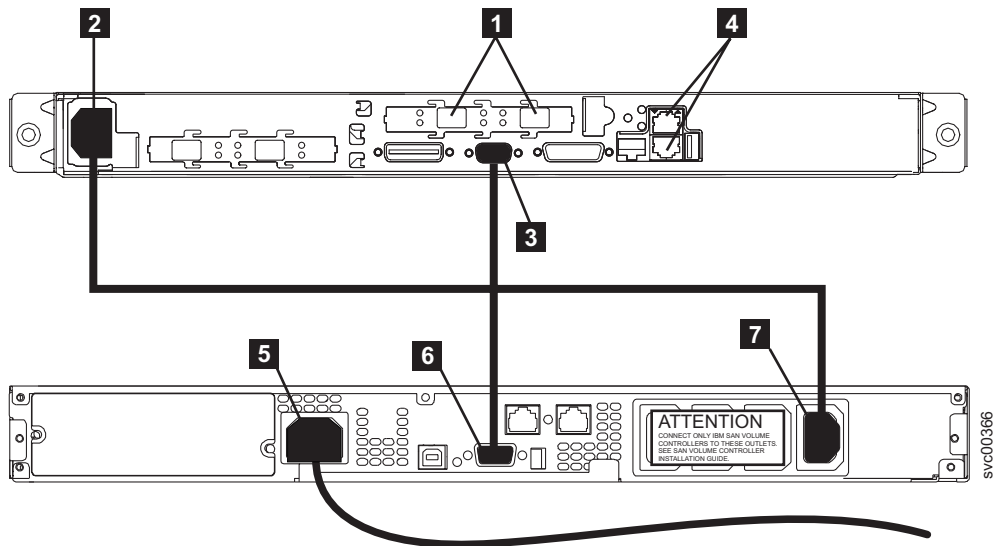

Figure 42. Connecting the SAN Volume Controller 2145-4F2 power cable to the 2145 UPS-1U
1. At the back of the SAN Volume Controller 2145-4F2, plug the combined power and serial cable into the power connector ( **2** in Figure 42 on page 52).